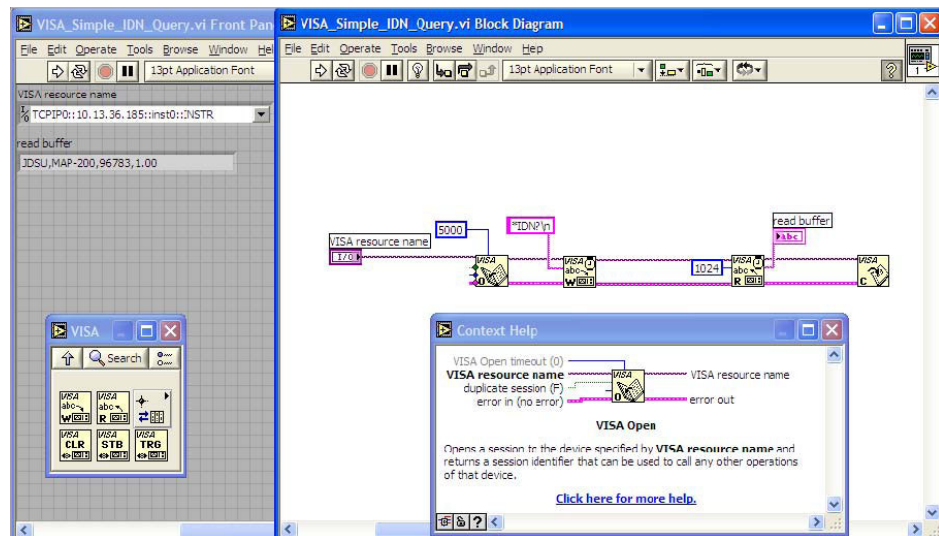

Figure 6: Simple MAP-200 SCPI & LVVI Using VISA VIs
If using IVI drivers is not preferred, use SCPI commands instead. Once communication has been established, users can access the VISA palette to quickly read and write to and from the instrument. Access the VISA palette by selecting: Instrument I/O, VISA. Figure 6 shows a simple block diagram created to write and read from the MAP-200 using VISA open, write, read and close VIs.
**Note:** It is good programming practice to acquire a resource handle and reuse that handle until finished. Opening and closing of VISA resources can be made to be a simple sub-VI that is passed onto top-level VIs. Figure 6 does not indicate this as it is intended to depict a simple example.